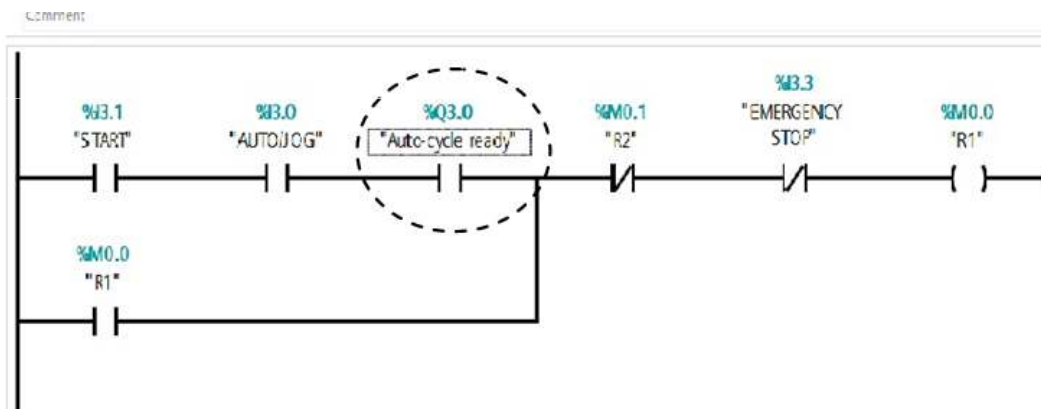

Fig 8.17 Amended RLL for Example 8.10 requirement (d) shown in dot line.
- New network required to enable the auto-cycle. Parking condition for current case represents the status of both double acting cylinders in the backward position. Fig 8.17, shows the amended RLL.